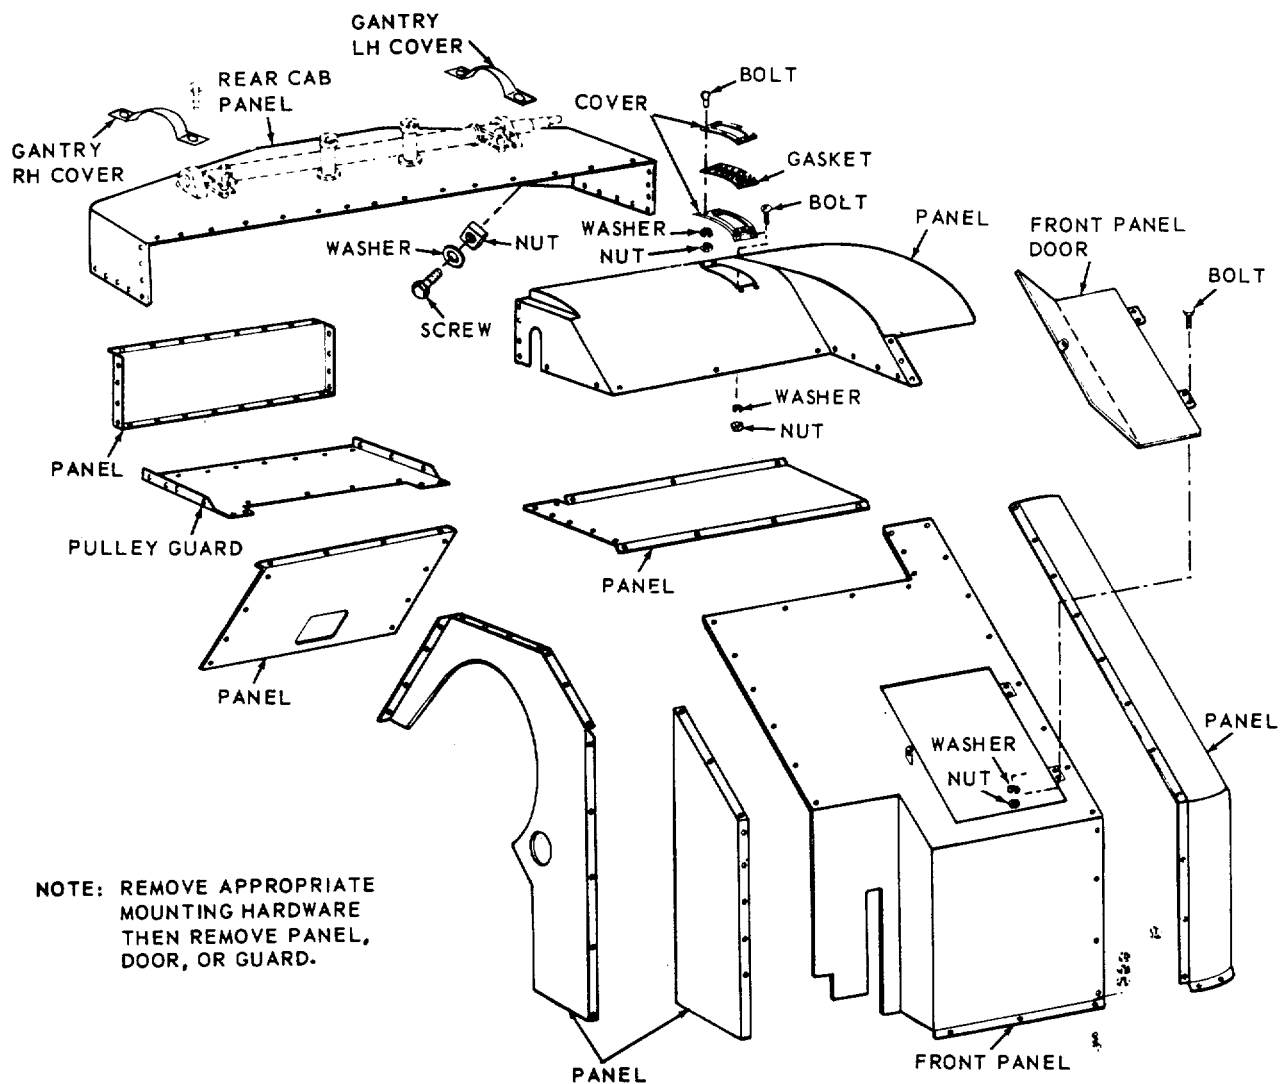

Figure 3-135. Panel, covers, and doors, removal and installation.
(1) Refer to figure 3-135 and remove left front panel door.
(2) Install in reverse order.
Refer to figure 3-135 and remove or install the rear cab panel.